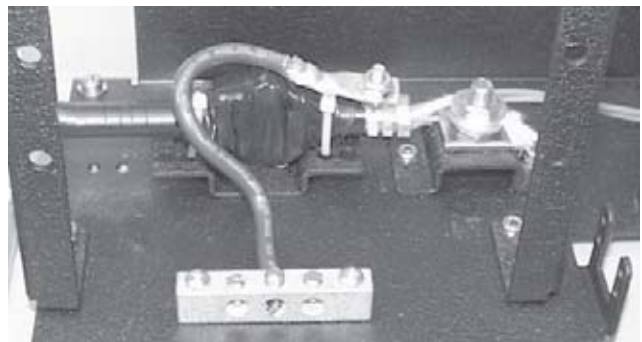

Figure 11
9.7 When cable grounding is necessary, use the hardware ground kit (purchased separately). Install the ground kit as shown in Figure 11.